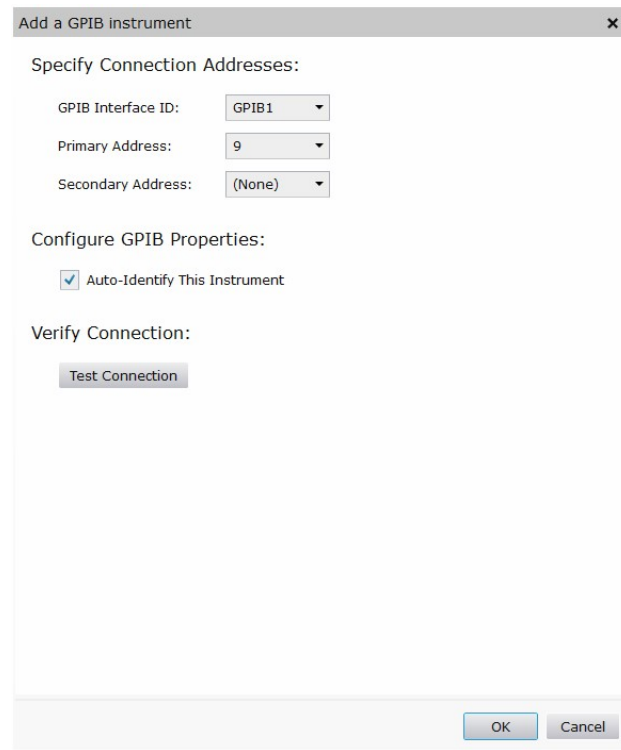

Figure 2-9 Remote GPIB Instrument Dialog Box.
- 4** The **Add a GPIB instrument** dialog box is shown in Figure 2-9.